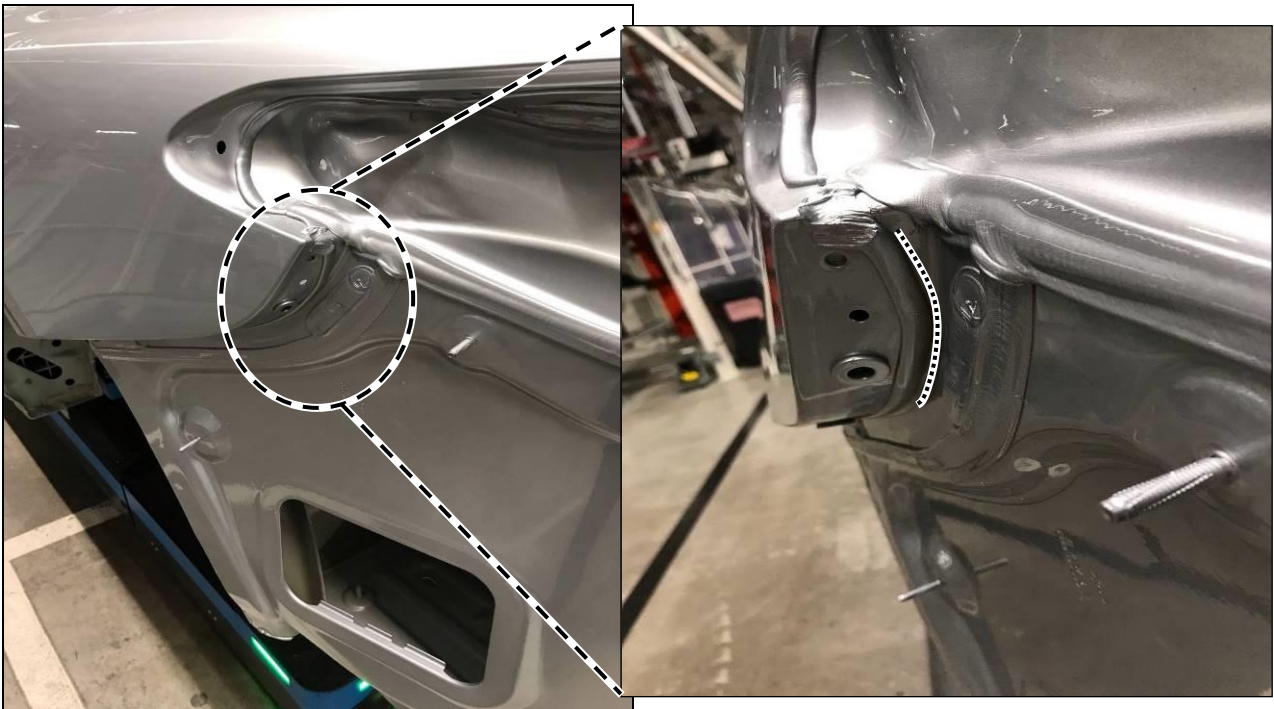

Figure 2
- 3.2. Apply activator to the affected area (Figure 2).
- 3.3. Affix additional transparent seam seal in marked area as an aftermarket addition (Figure 2).